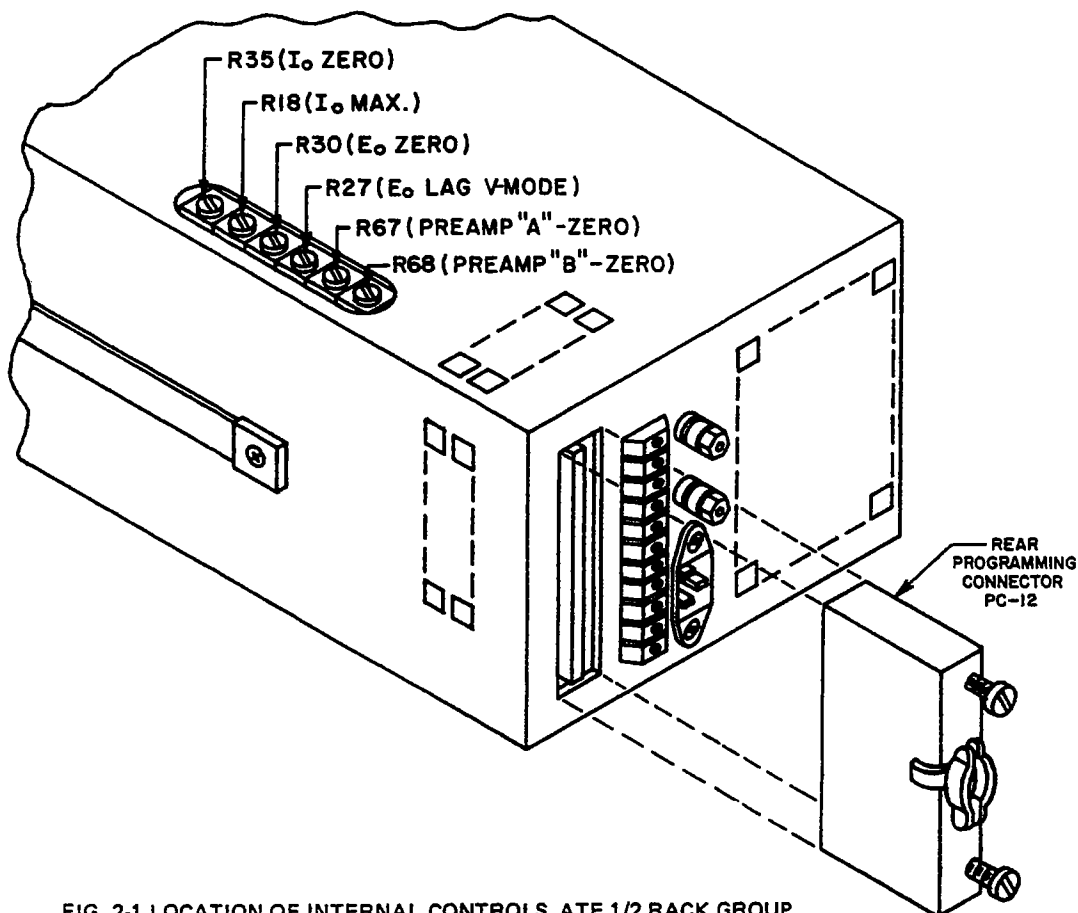

FIG. 2-1 LOCATION OF INTERNAL CONTROLS, ATE 1/2 RACK GROUP.
- c) INTERNAL CONTROLS: Refer to FIG. 2-1 and Table 2-1.
- 2-19 LAG NETWORK ADJUSTMENT. The ATE power supply operating in the "fast" mode, is dynamically stabilized by means of an internal lag network ( $E_o$  LAG, R27, see FIG. 2-1 for location). This control should be adjusted, for each application, by monitoring the load with an oscilloscope and turning the LAG control for best output response and maximum dynamic stability under all operating conditions.